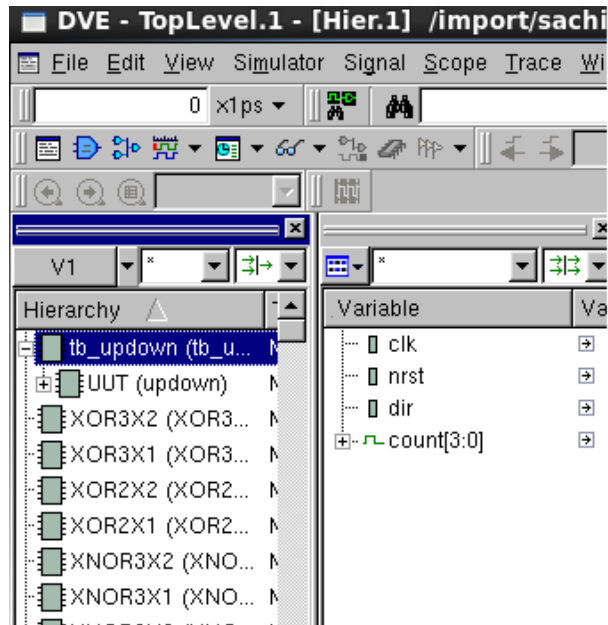

Figure 4: Testbench database hierarchy pane
4. Invoke DVE and load the tb_updown.vpd database. The hierarchy pane should show more than the usual amount of modules because even unused standard cells found in the library were also compiled. Navigate the hierarchy pane to show the tb_updown module and expand it, as shown in figure 4.